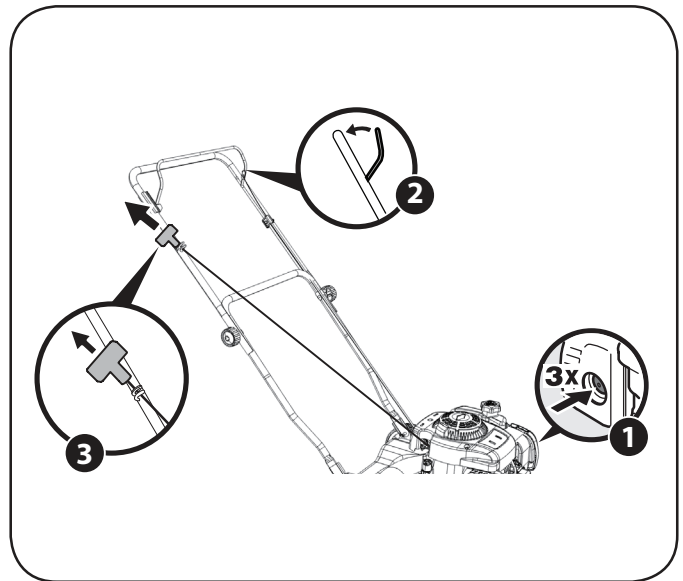

Figure 8
1. Push the primer three times (Figure 8). Do not prime to restart a warm engine.
2. Standing behind the mower, pull the blade control handle back against the upper handle (Figure 8).
3. While holding the blade control against the upper handle, grasp the recoil starter handle and pull rope out with a rapid, continuous, full arm stroke (Figure 8). Keeping a firm grip on the starter handle, let the rope rewind slowly. Repeat until engine starts. Let the rope rewind each time slowly.